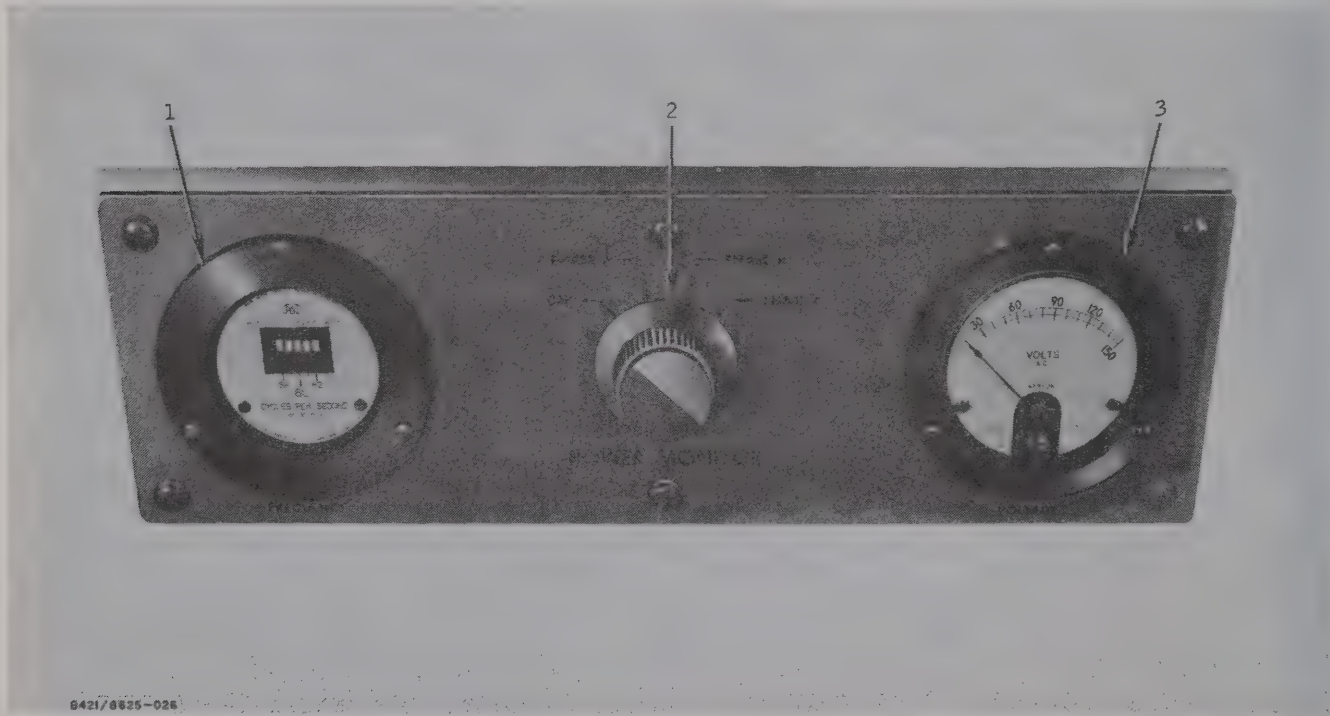

Figure 3-5. Power Monitor Panel
Table 3-5. Power Monitor Panel, Controls and Indicators (fig. 3-5)
a. Set the main circuit breaker (fig. 3-1) to the ON position. This applies primary power to the distribution box (fig. 3-2), power monitor panel (fig. 3-5) and to circuit breaker CB427 (fig. 3-1).
c. Rotate the phase selector on the power monitor panel (fig. 3-5), progressively, to